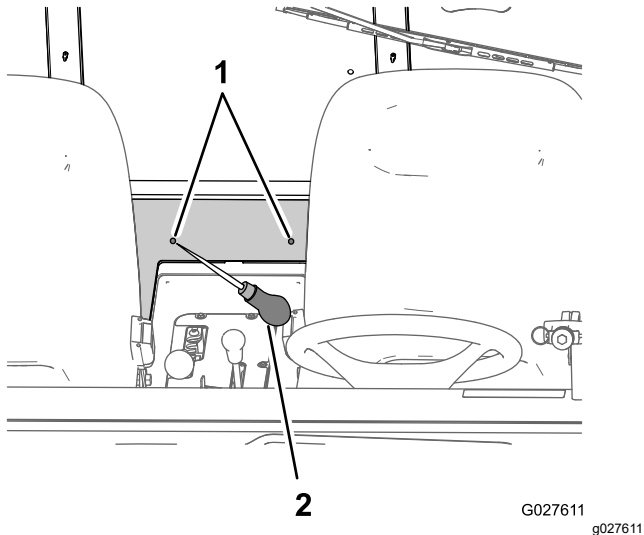

Figure 17
4. Use an awl or punch to open a hole through the interior foam panel (Figure 17) at the hole locations that you identified in step 3.